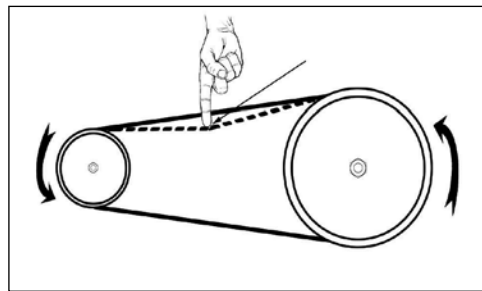

Figure 4
6. Slide the sanding belt frame assembly to tighten the belt, so there is between 1/4" and 1/2" of deflection, as shown in figure 4.